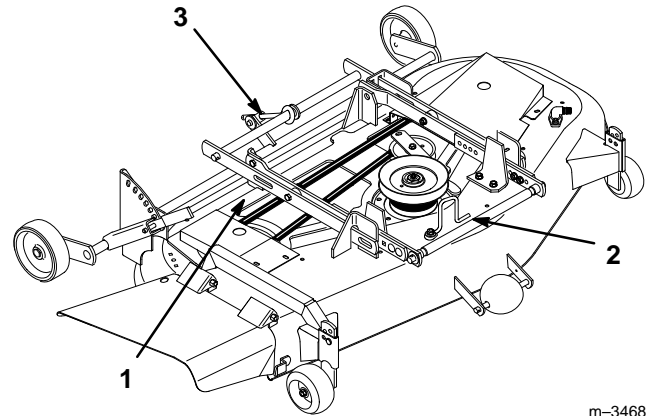

Figure 5
4. After sliding the mower under the tractor, position it so that the slots in the side of each of the mower’s mounting brackets (Fig. 5) are aligned directly below the tractor’s attachment lift arm.